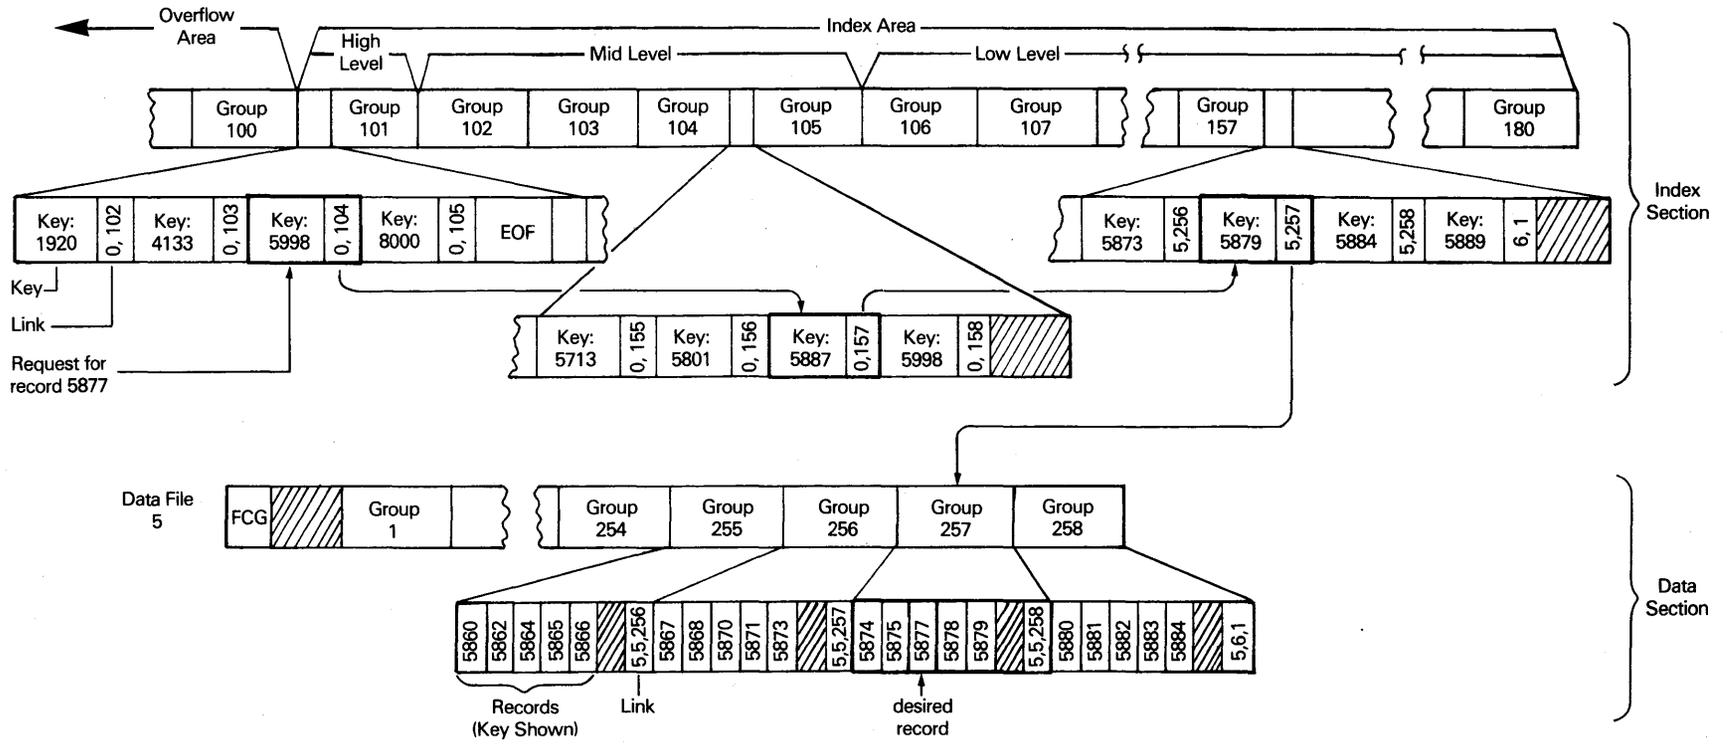

Figure 10-3 Index Area
The organization of the index area of the index section is shown in Figure 10-3. This is a hypothetical index for an ISAM file of approximately 8000 records with five data records per group and 20 index entries per group. There are seven data files with approximately 1200 records (240 groups) per data file. Keys are numeric, starting with one. The illustration is of a search for a record whose key is 5877. The search is started in the highest (coarsest) level of the index. In this example this level consists of four entries in group 101. The search is for a key of equal or greater value than 5877. The index entry link for index key 5998 points to group 104. The search of this group stops at key 5887, whose associated link points to group 157 in the lowest (finest) section of the index area. The search of the group ends at key 5879 which points, via the link, to data file five, group 257. Group 257 is searched sequentially for the desired record.